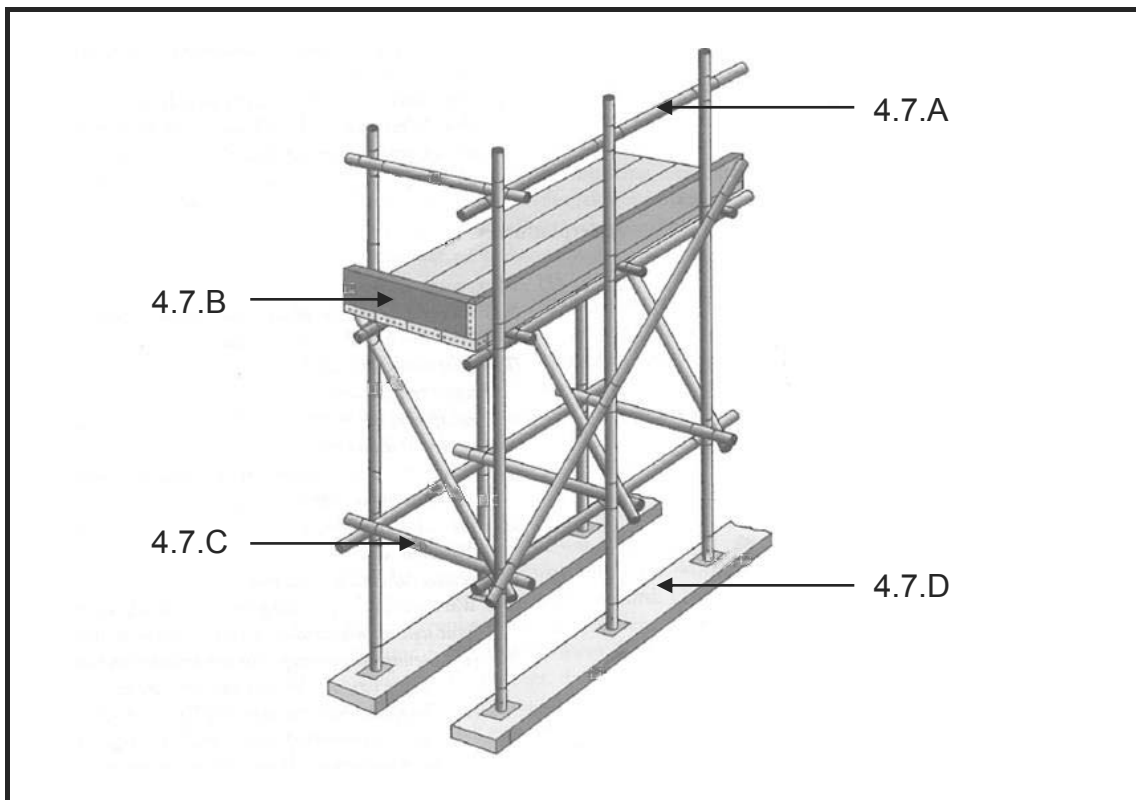

FIGURE 4.7
- 4.7 Answer the following questions with regard to the scaffolding in FIGURE 4.7.